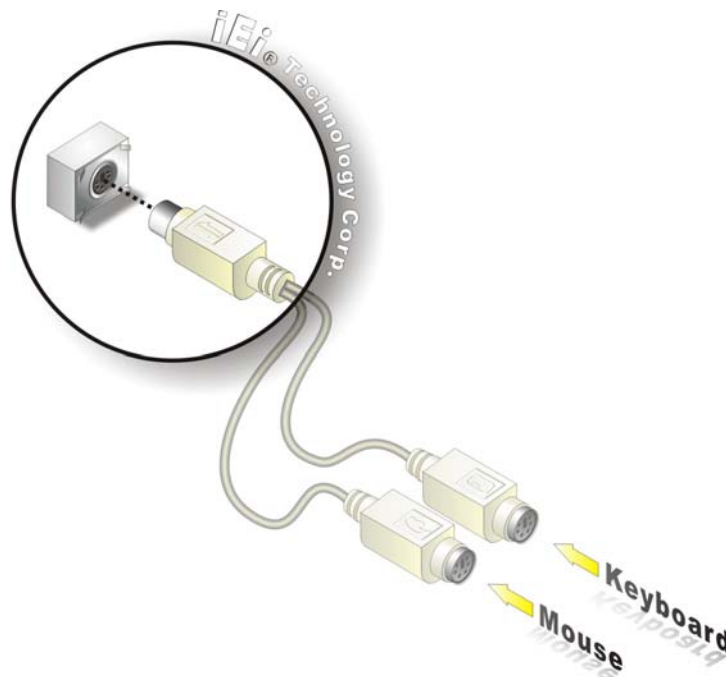

Figure 5-21: PS/2 Connector
Step 3: **Insert the PS/2 connector** Once the connectors are properly, insert the PS/2 connector from the keyboard and mouse cable into the PS/2 connector on the NANO-9452. See **Figure 5-21**.